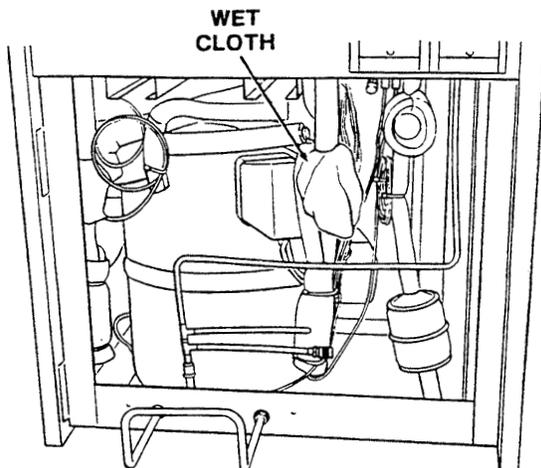

Figure 37. T.X.V. Removal
6. Apply a heatsink (wet cloth) to the valve dome (Figure 37).